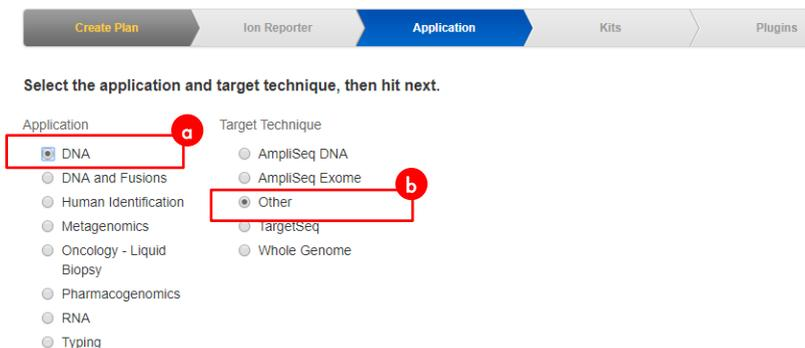

Figure 11. Application Tab. (11a) "DNA" option selected under Application. (11b) "Other" option selected under Target Technique.
5. Under **Application** tab, select **DNA** (Figure 11 a) for Application and **Other** (Figure 11b) for Target Technique.